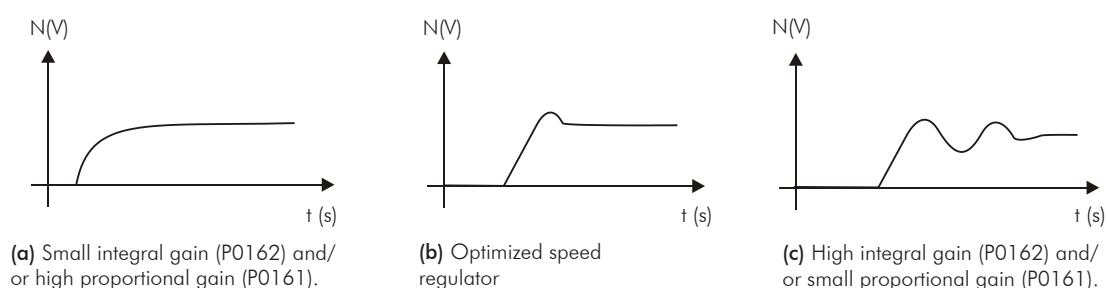

Figure 11.4 - Speed regulators response types
6. Verify among the options of the Figure 11.4 on page 11-17, which waveform best represents the observed signal.
7. Adjust P0161 and P0162 according to the response type presented in the Figure 11.4 on page 11-17.